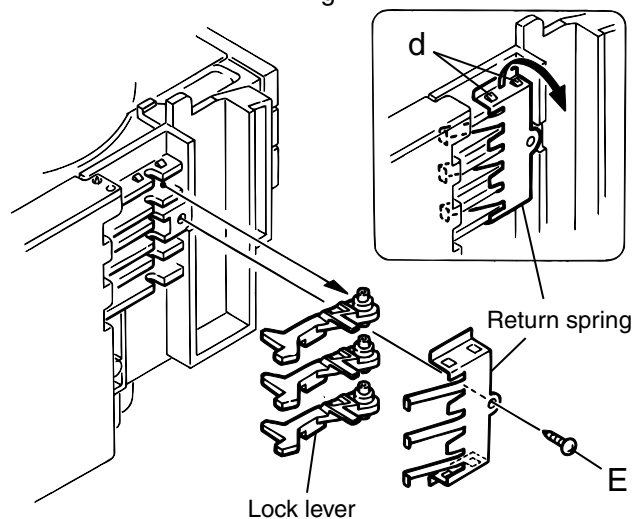

Fig.4
8. From the left side face of the chassis assembly, remove the one screw E retaining both of the return spring and lock lever(See Fig. 4).
9. By removing the pawl at the section d fixing the return spring, dismount the return spring(See Fig.4).
10. Remove the three lock levers(See Fig.4).